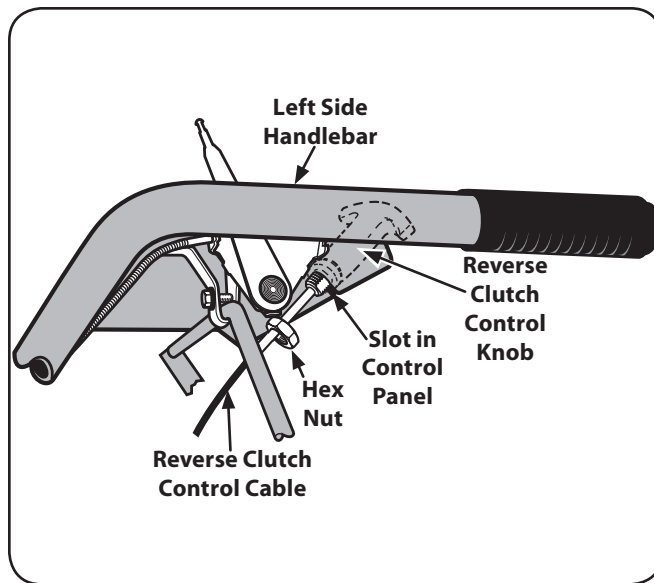

Figure 3-5
1. Carefully unwrap the reverse clutch control cable from its shipping position and route it up along the inside edge of the left side handlebar. See Figure 3-5. A knob and large hex nut is installed on the cable.